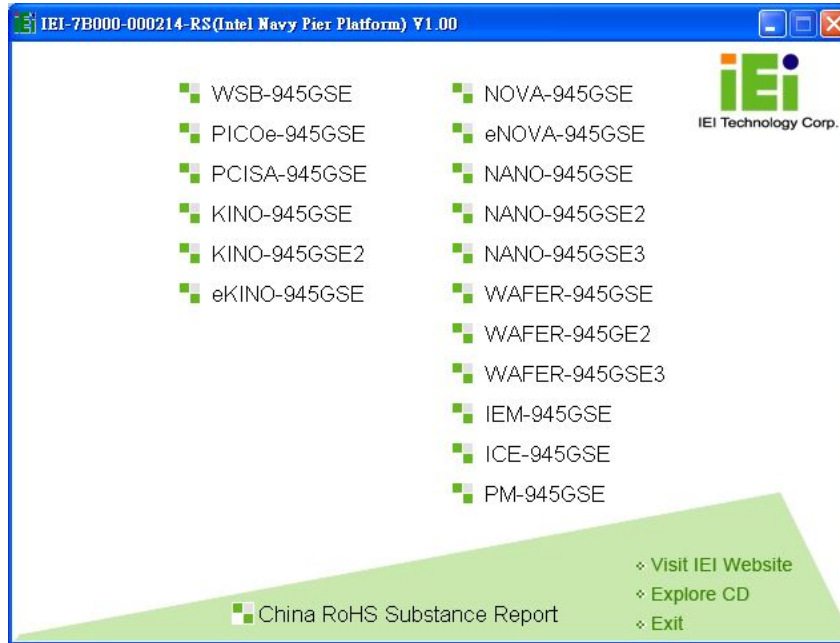

Figure 4-22: Start Up Screen
Step 2: The screen in Figure 4-22 appears.